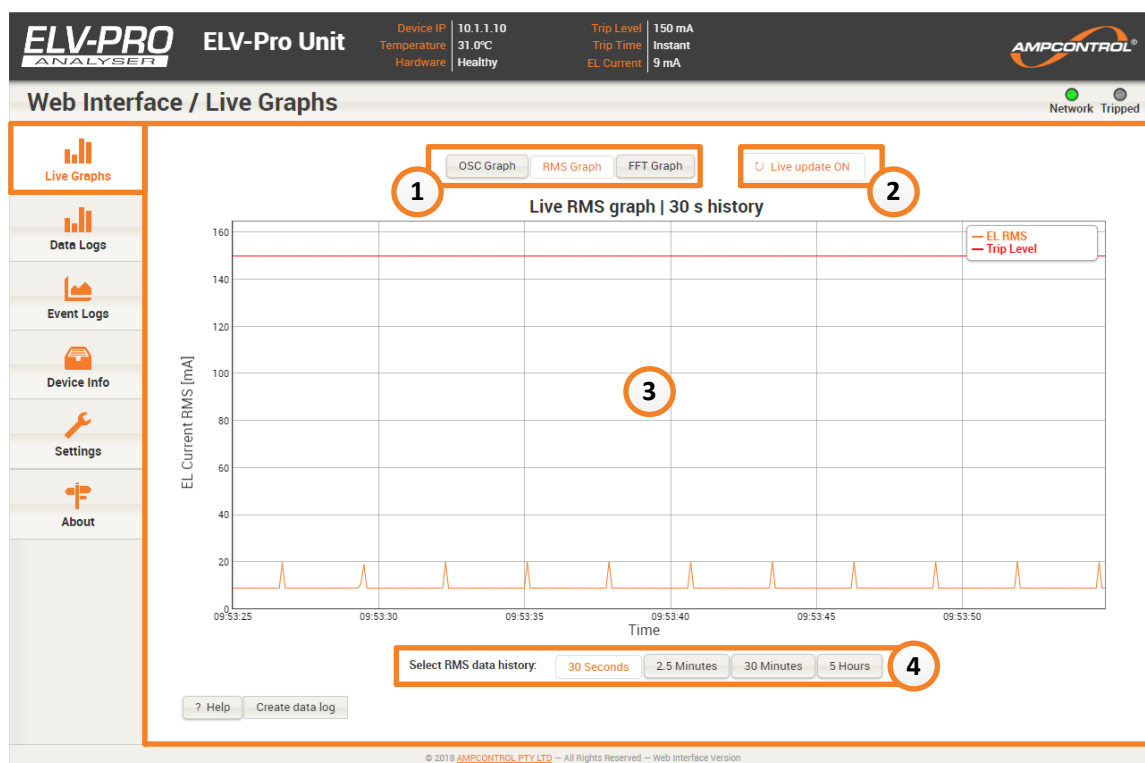

Figure 6.3: ELV-PRO Web Interface - Live Graphs (RMS)
Figure 6.3 shows the ELV-PRO Live Graphs interface. By default, the Live Graphs tab displays the RMS graph of the past 30 seconds. The graphs in this tab are refreshed every second; provided the Live Update button (Item 2 of Figure 6.3) is activated (default is ON). With the Live Update button disabled the plot is static which can allow for better inspection of the data shown using the interactive features of the plots (described in Section 6.2.8). The buttons above the graphs (item 1 of Figure 6.3) allow the graph to alternate between the three possible options. These are:
- RMS graph: In this view, Root Mean Square (RMS) values of the measured current are shown. The user is able to select the time interval on the graph by selecting from the buttons below the graph. Figure 6.3.